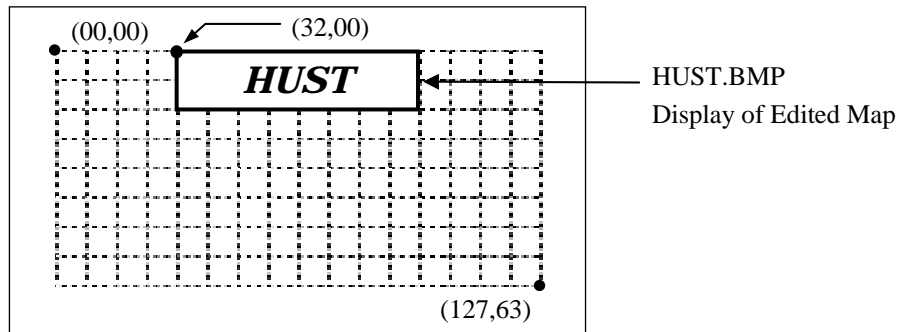

Fig 12-12 LCD Display of Edited Map
Step 5: Press ESC key to return to main function page. The edited map for LCD display will be shown as in Fig 12-12.